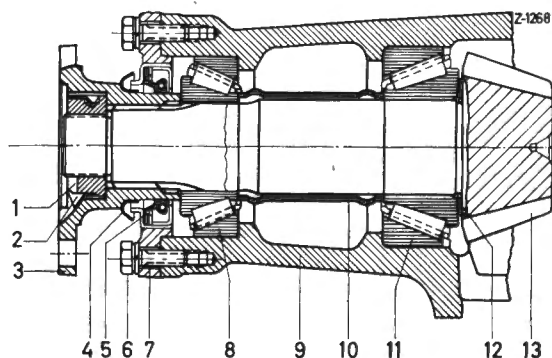

Fig. 35-8/1
4. Mark the position of the joint flange in relation to the drive pinion by two center punch marks in order to ensure that on reassembly the joint flange is installed in exactly the same position as before (Fig. 35-8/6).
5. Unlock the grooved nut and unscrew by means of Special Wrench 111 589 00 07 00 (2), holding the joint flange (4) steady with Retaining Wrench 111 589 02 07 00 (3) (Fig. 35-8/4).